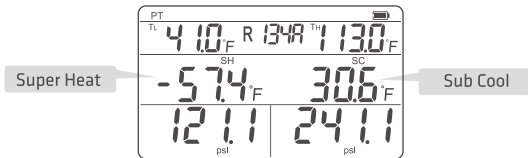

FIG.2 Diagram of Superheat and Subcooling Sub Mode
2. Short press the **MODE** key to enter the sub mode of superheat and subcooling, the interface [FIG.2] displays the measured pressure, temperature, superheat and subcooling values at the high and low pressure sides.